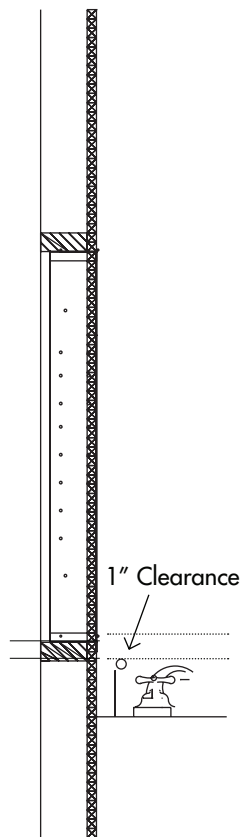

FIG 2
3. **IMPORTANT:** Locate medicine cabinet at correct height. Make sure there is at least 1" of clearance above any obstructions (Fig 2).